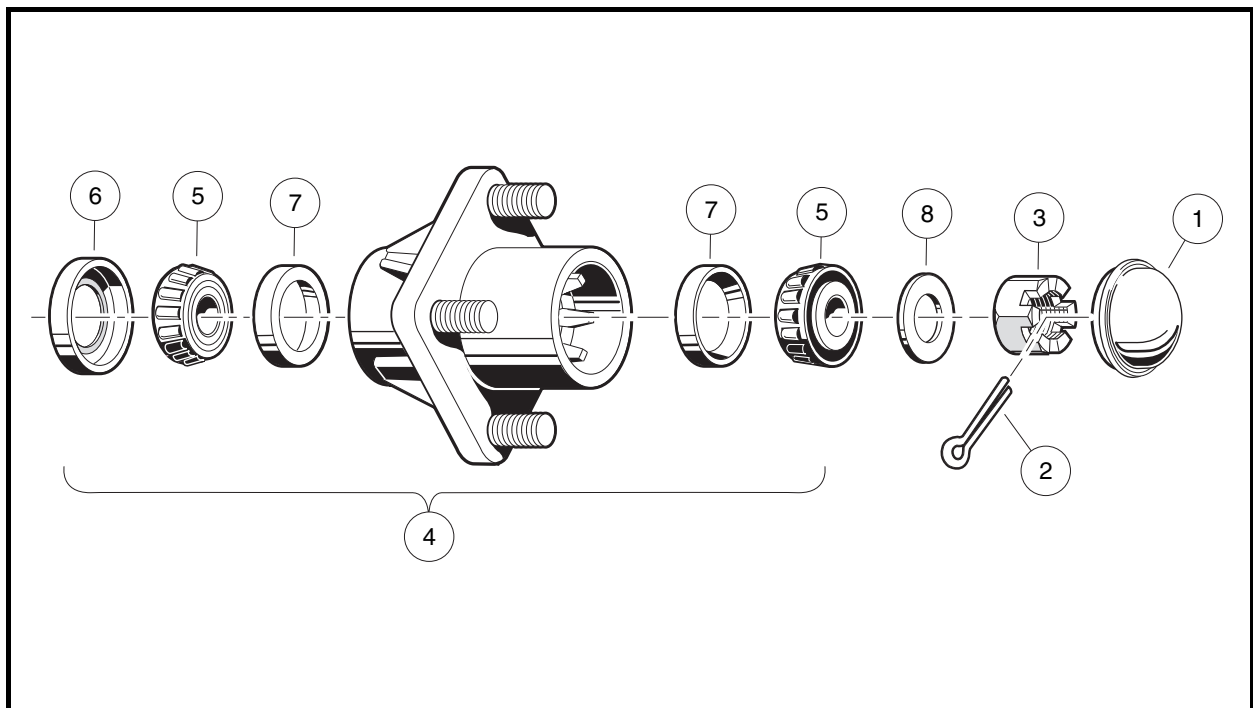

Figure 7-25 Front Wheel Bearings and Hub
2. Using your hands, attempt to rock the wheel and hub assembly back and forth on the spindle. If there is any observable movement of the wheel and hub on the spindle, remove dust cap (1) and cotter pin (2), and then tighten the spindle nut (3) until the bearing (5) fully seats in the bearing race (7).
4. Install a new cotter pin (2). If movement continues, replace the wheel bearings (5) as required (Figure 7-25, Page 7-25).
- 2.1. Remove dust cover (1), cotter pin (2), spindle nut (3), and flat washer (8) (**Figure 7-25, Page 7-25**).
1. Pack the wheel bearings (5) and hub cavities, and lubricate cups (7) with wheel bearing grease or chassis lube. Make sure the grease is forced between the rollers (**Figure 7-25, Page 7-25**).
2. If bearing cups (7) were removed, press new ones in squarely against stops in the hub. **See following NOTE.**
3. Install the wheel bearings (5) into the hub and install a new seal (6), with the metal edge toward the hub. **See following NOTE.**
4. Install the hub assembly (4) and flat washer (8) on the spindle and start the spindle nut (3).
5. Tighten the spindle nut until the hub is hard to turn, then back the nut (3) off until the hub turns freely. Install a new cotter pin (2). **See following NOTE.**
7. Install the dust cap (1).